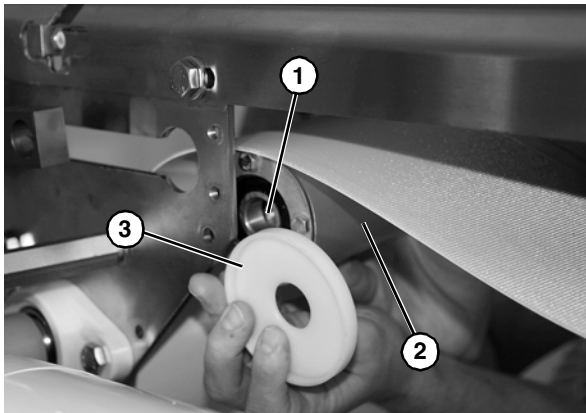

Figure 79
- Slide shaft (Figure 79, item 1) into tensioner pulley (Figure 79, item 2), and remove spacer plate (Figure 79, item 3).
When removing components, be sure to note the orientation of spacer plate (Figure 79, item 3) on each end of conveyor.
- Remove tensioner pulley (Figure 79, item 2) and remaining spacer plate.